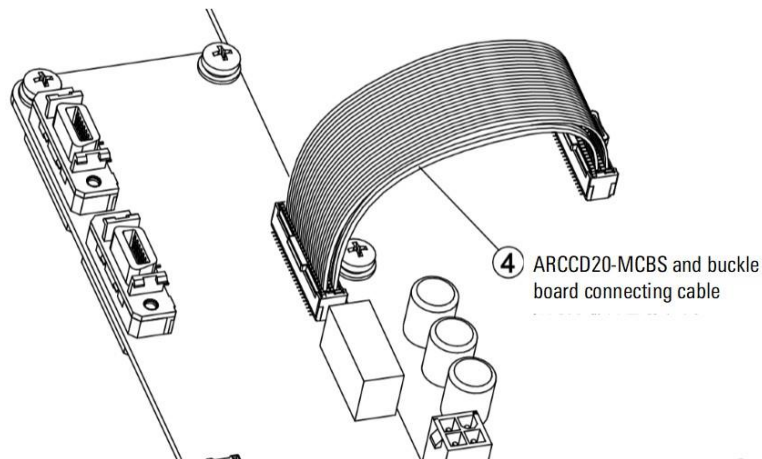

Figure 2-2 Diagram of connecting MCB and MCB-IEB
Step3. Connect the MCB and ① MCB-IEB using the ④ ARCCD20-MCBS and the buckle board connector as shown in Figure 2-2.